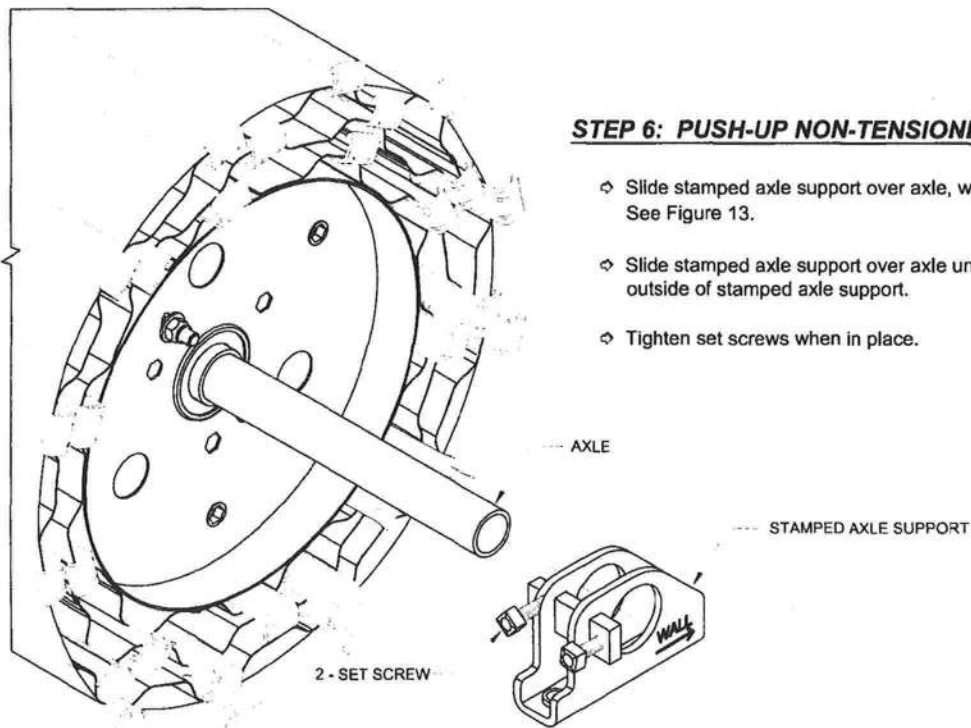

FIGURE 13: STAMPED AXLE SUPPORT TO AXLE
- ⇒ Slide stamped axle support over axle, with arrow pointing toward wall. See Figure 13.